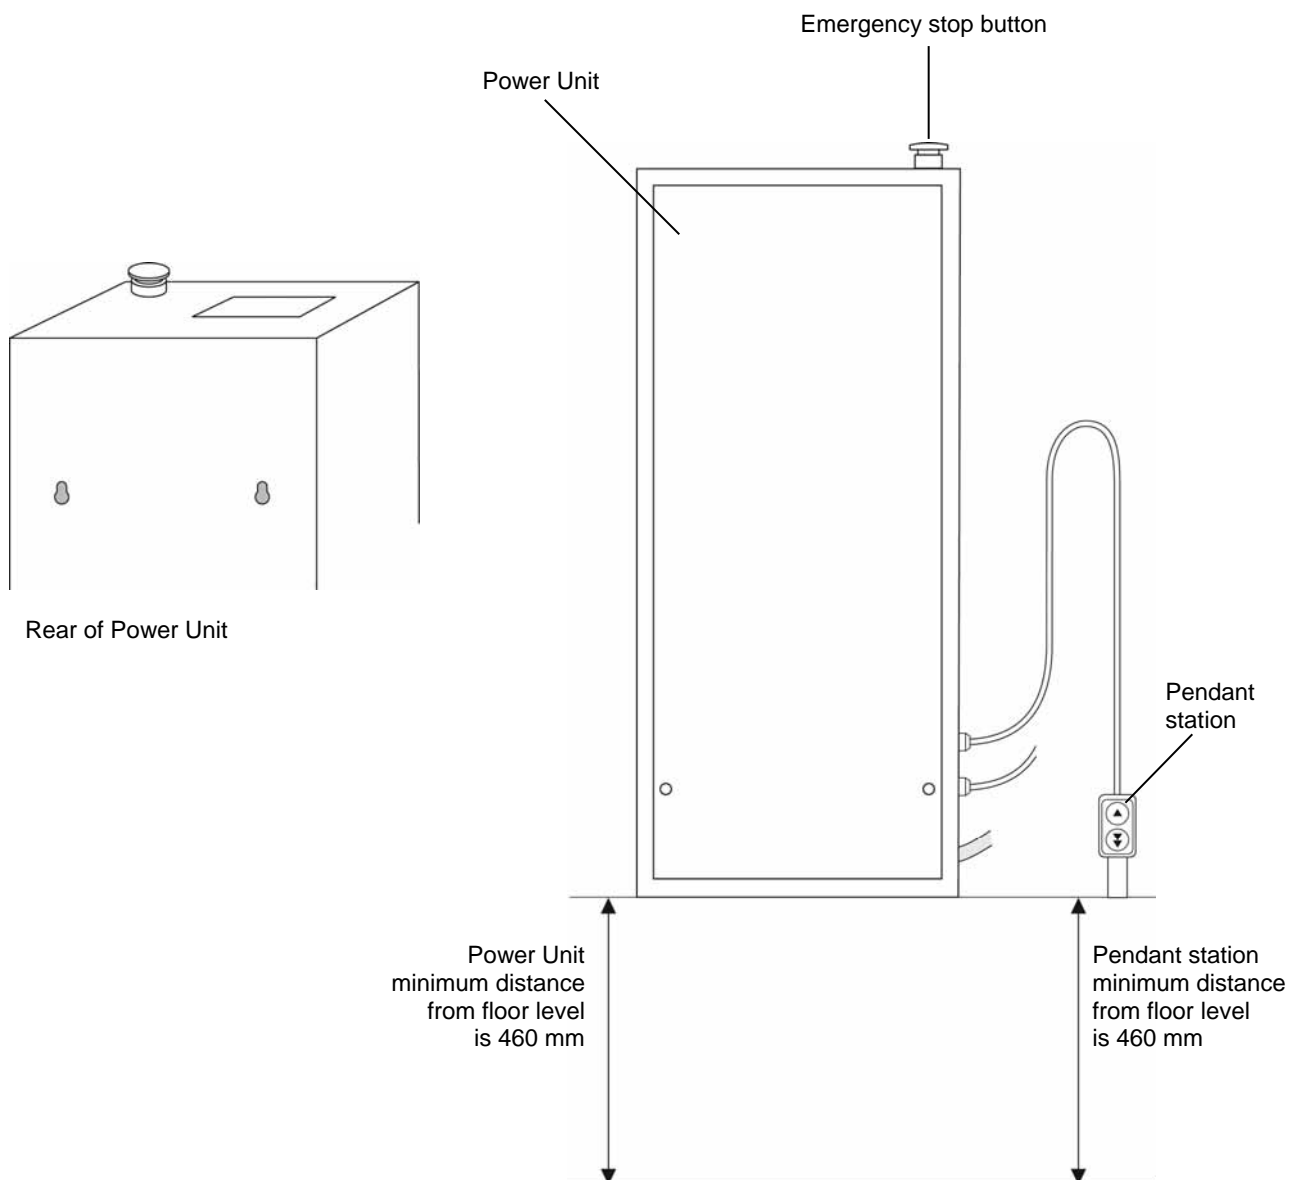

Figure 3.3 Wall-mounting of the Power Unit
When mounting the Power unit to a single plasterboard wall, minimum thickness 10 mm (3/8 in), Car-O-Liner recommend fixing the Power unit to a wooden block, 350x120 mm, minimum thickness 35 mm (1 3/8 in, thickness 1 3/8 in). The wooden block shall be fixed to the single plasterboard with four molly screws and the power unit shall be fixed to the wooden block with two wooden screws, *see figure 3.3*.
- 3** **Tighten the L-coupling to the hose (see figure 3.3).**